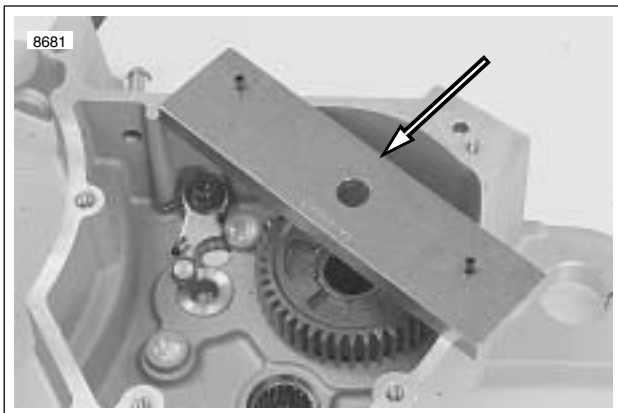

Figure 6-68. Bearing Remover Cross Plate Mounting (Part No. B-45847)
4. See Figure 6-68. Place cross plate on crankcase as shown.